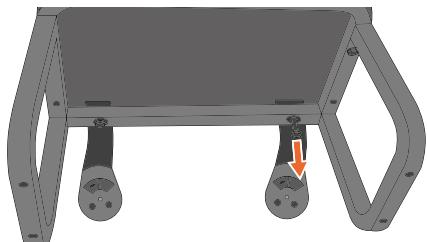

Figure 4 - Removing seatbelt.
- 5.** Turn the bench upside down and loosen the bolt that attaches the seatbelt to the bench on the right side of the seat, as shown in figure 4.
- 8.** Take the toddler seat and thread the just removed seatbelt from figure 4 through the toddler seat. Now reattach the seatbelt to the bench and reinsert the bolt and washer from figure 4.